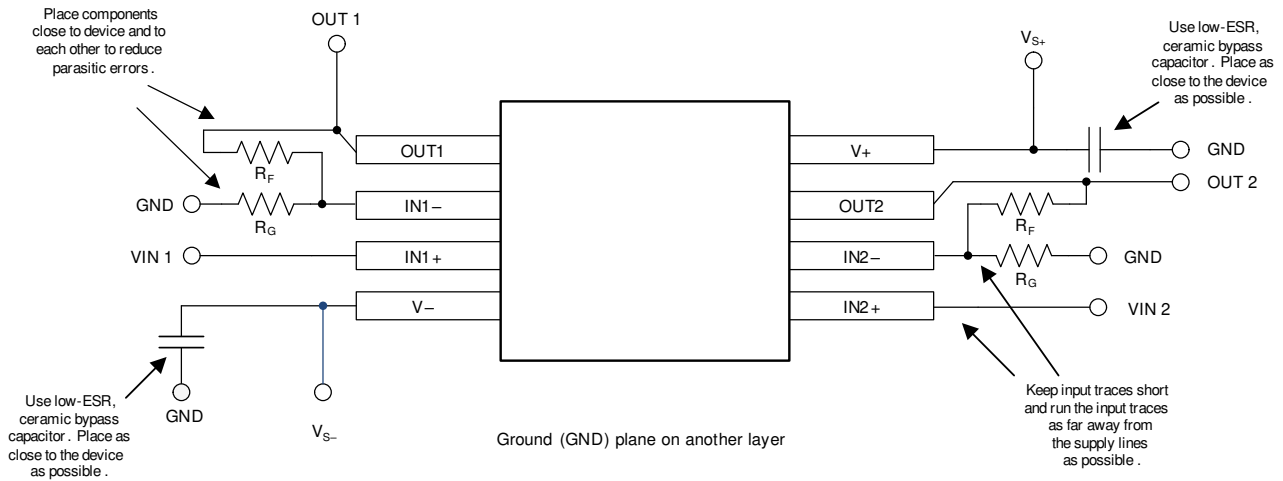

图 9-4. Layout Example
- Place the external components as close to the device as possible. As illustrated in 图 9-4, keeping R_F and R_G close to the inverting input minimizes parasitic capacitance on the inverting input.